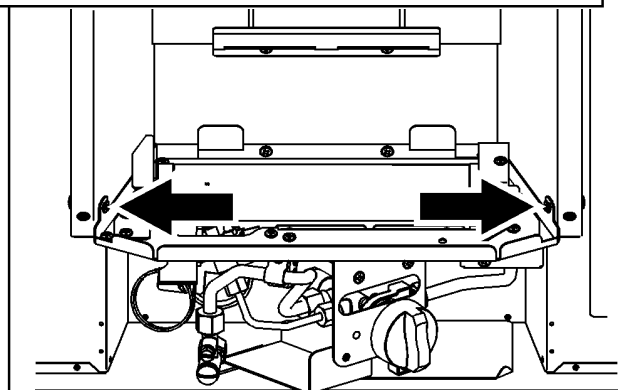

Figure 40.
5. Detach the burner unit from the convection box by removing two screws (See figure 40).